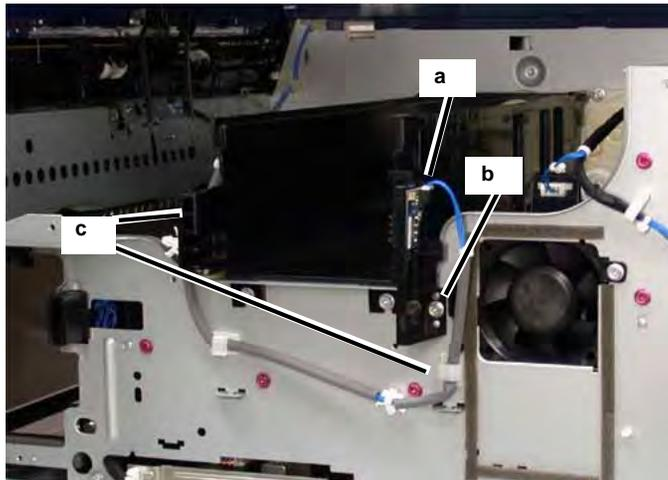

Figure 13 Wires & PJ
15. Remove the Toner Cartridge Connector (Figure 13).
- a. Disconnect the PJ (1).